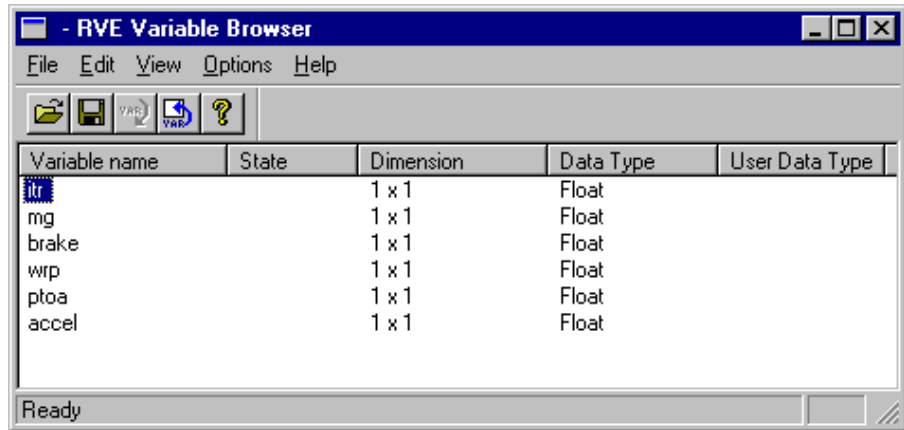

FIGURE 8-6 Run-time Variable List Dialog
5. Figure 8-6 shows a typical Variable Browser dialog. To change a column width, click on a divider and drag it left or right. To edit a variable, double-click on its name, or select the name, then select Edit→Open.